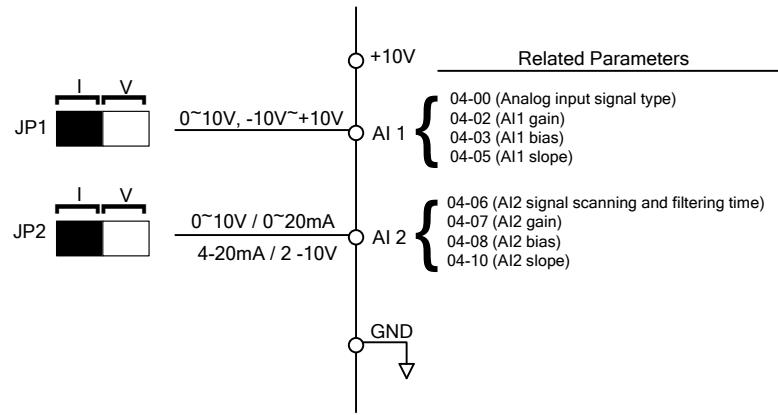

Figure 4.3.35 Analog inputs and related parameters
(1) Analog input level adjustment AI1/AI2(04-02, 04-03, 04-07, 04-08)
- Analog input signal AI1 can be adjusted with parameter 04-02 and 04-03. Analog input signal AI2 can be adjusted with parameter 04-07 and 04-08. Refer the figure 4.3.35 .